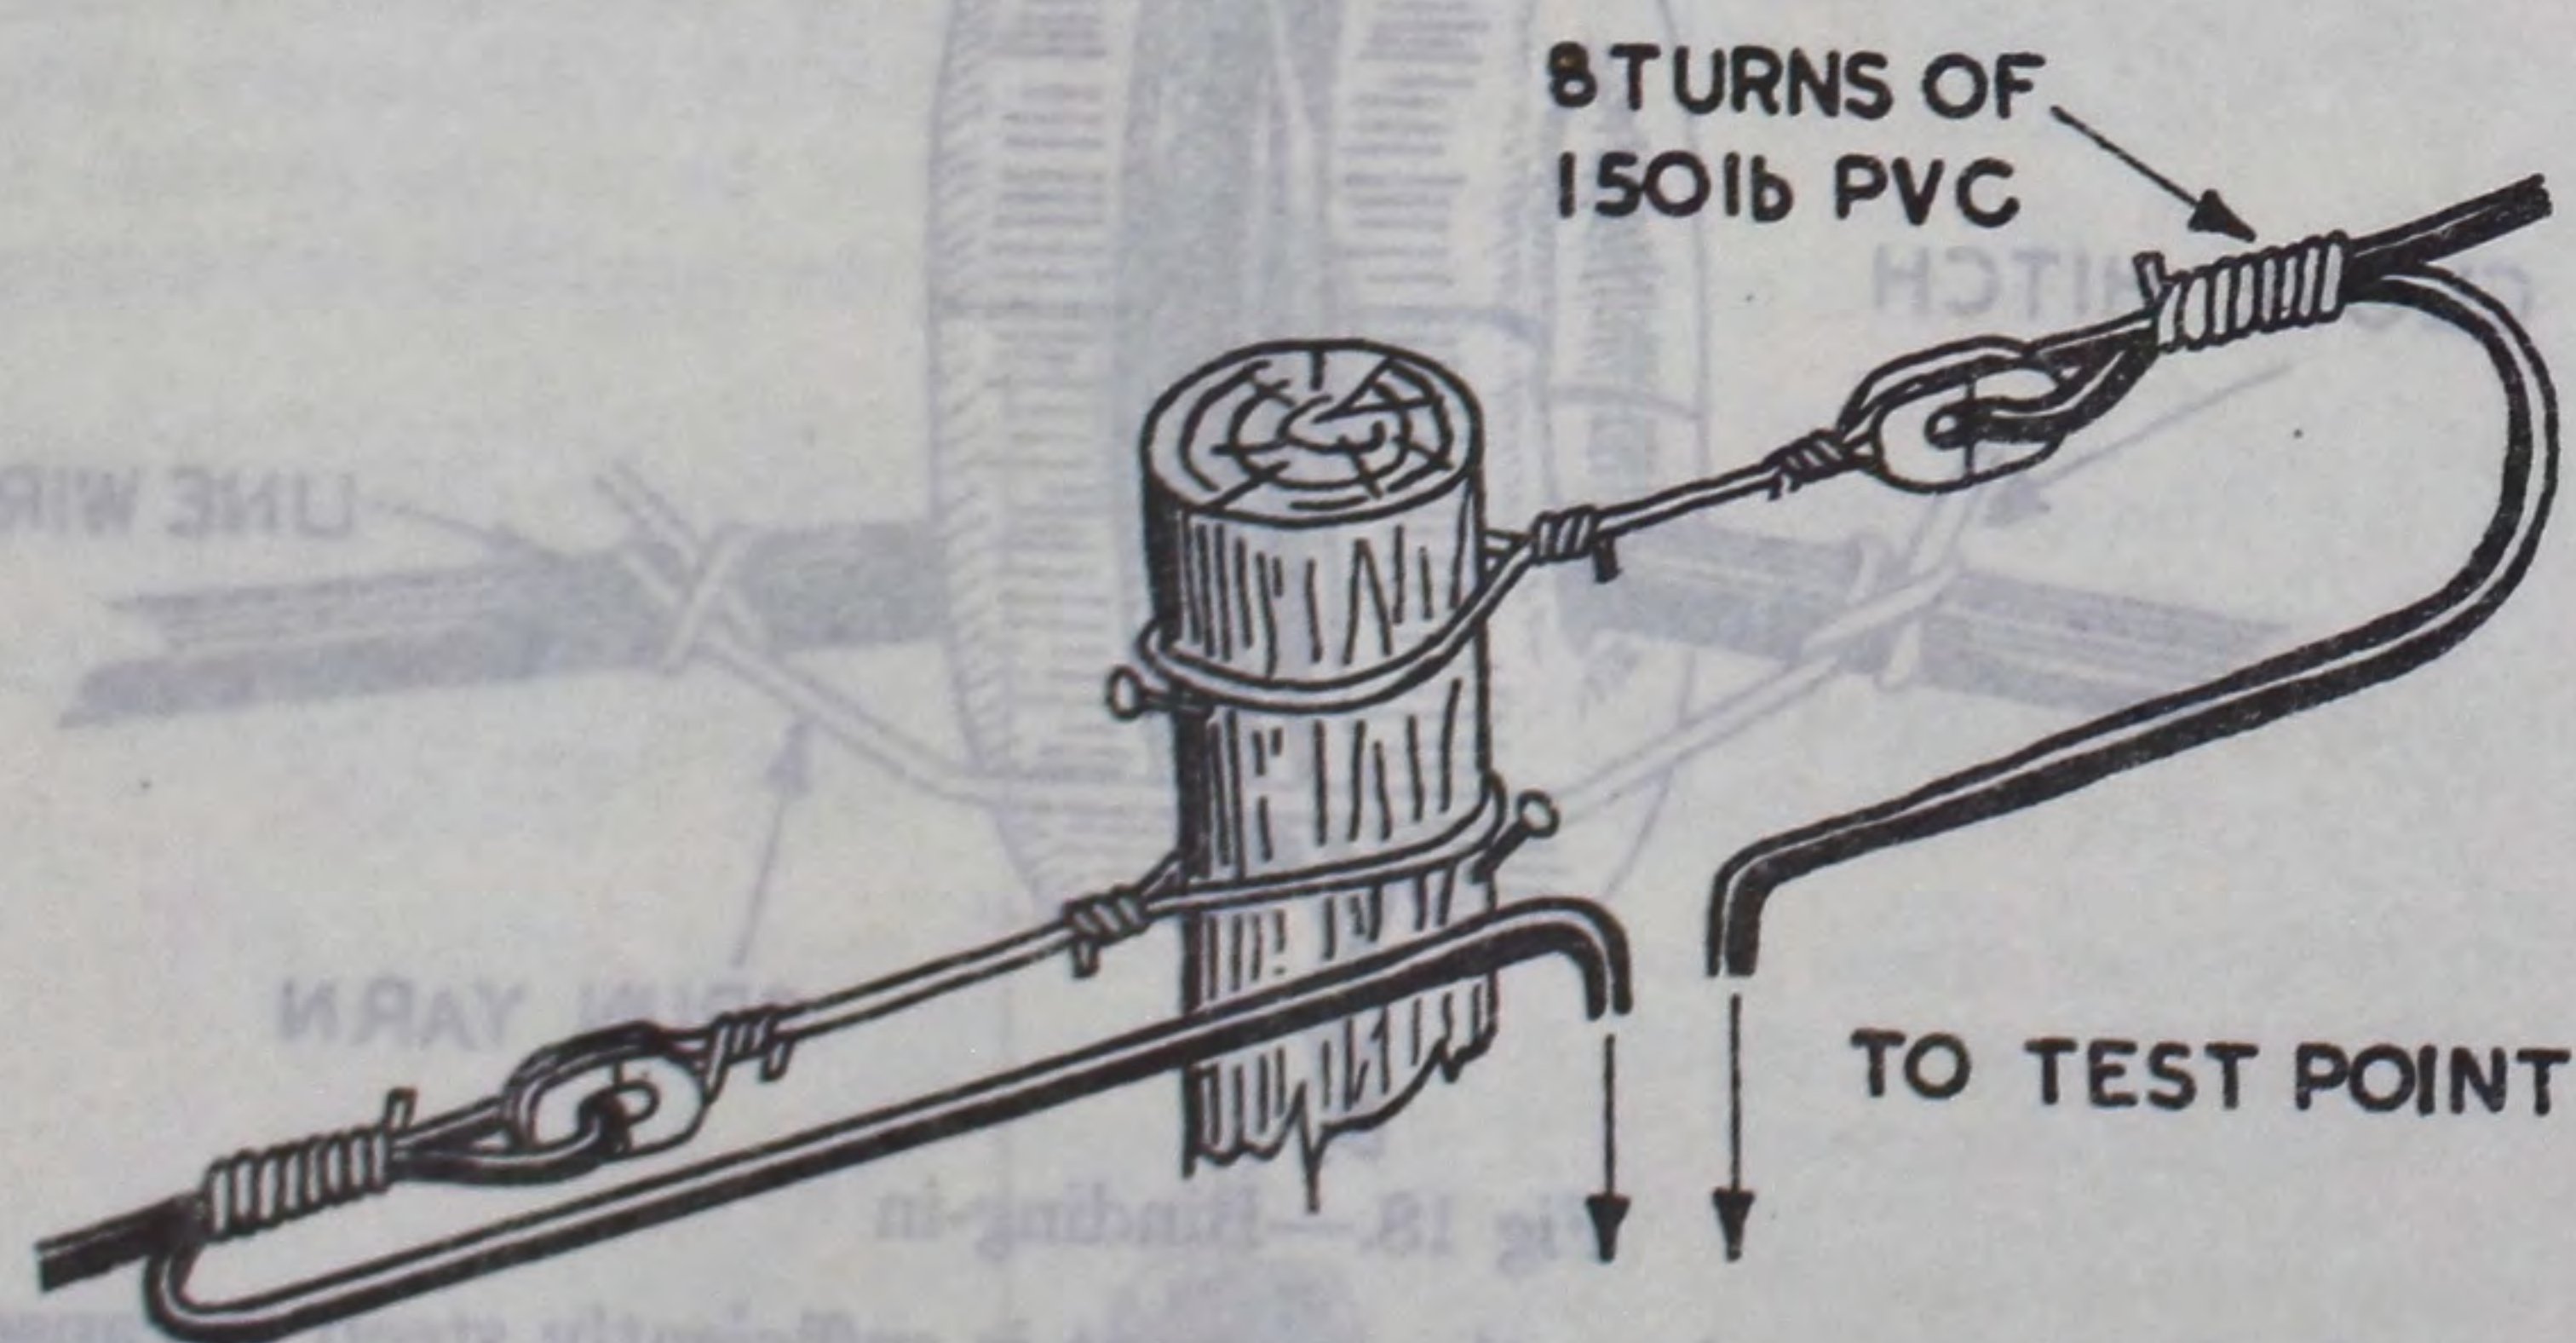

Fig 19.—Termination
- (b) When terminating, the line wire is taken through an insulator, the free end doubled back on the standing part of the line, the double wire bound with eight turns of line wire, and the free end led down to the test point (see Fig 19).
- (c) Transpositions should be made at approximately 440-yd intervals, in the same way as the termination in Fig 19.